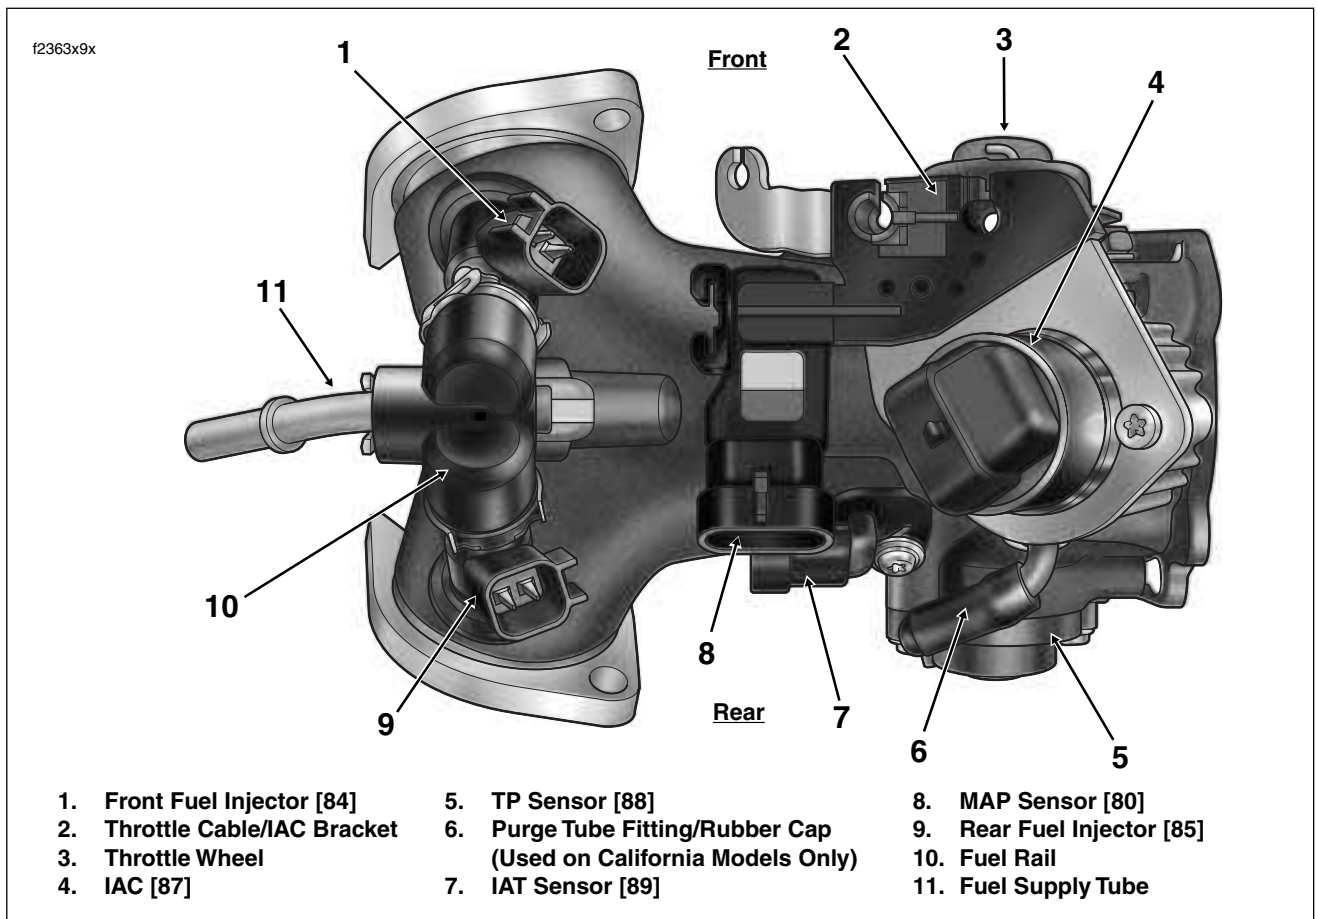

Figure 9-23. Induction Module Assembly
- Pull purge tube from fitting at top of induction module (California models only). See Figure 9-23.
2. Orientate the induction module as shown in Figure 9-23. With the counterbore facing outward, slide cylinder head flange adapters onto outlet ports of induction module. The flange adapters are not interchangeable. Look next to the slotted bolt hole for a stamp that indicates F(ront) and R(ear) cylinder.
On non-California models, inspect rubber cap for tears, cracks or signs of deterioration. Replace cap if damaged or missing. Figure 9-23. Operation without cap can result in engine damage.
4. Remove T20 TORX screw (with captive washer) to release IAT sensor from induction module. Discard screw. See Figure 9-23.
2. Insert sensor into induction module with electrical connector facing toward the left side of the motorcycle. See Figure 9-23.
4. Remove two T20 TORX screws (with captive washers) to release TP sensor from induction module. Discard screws. See Figure 9-23.
3. Install two **new** T20 TORX screws (with captive washers) to fasten TP sensor to induction module. Alternately tighten screws to 15-20 **in-lbs** (1.7-2.3 Nm). See Figure 9-23.